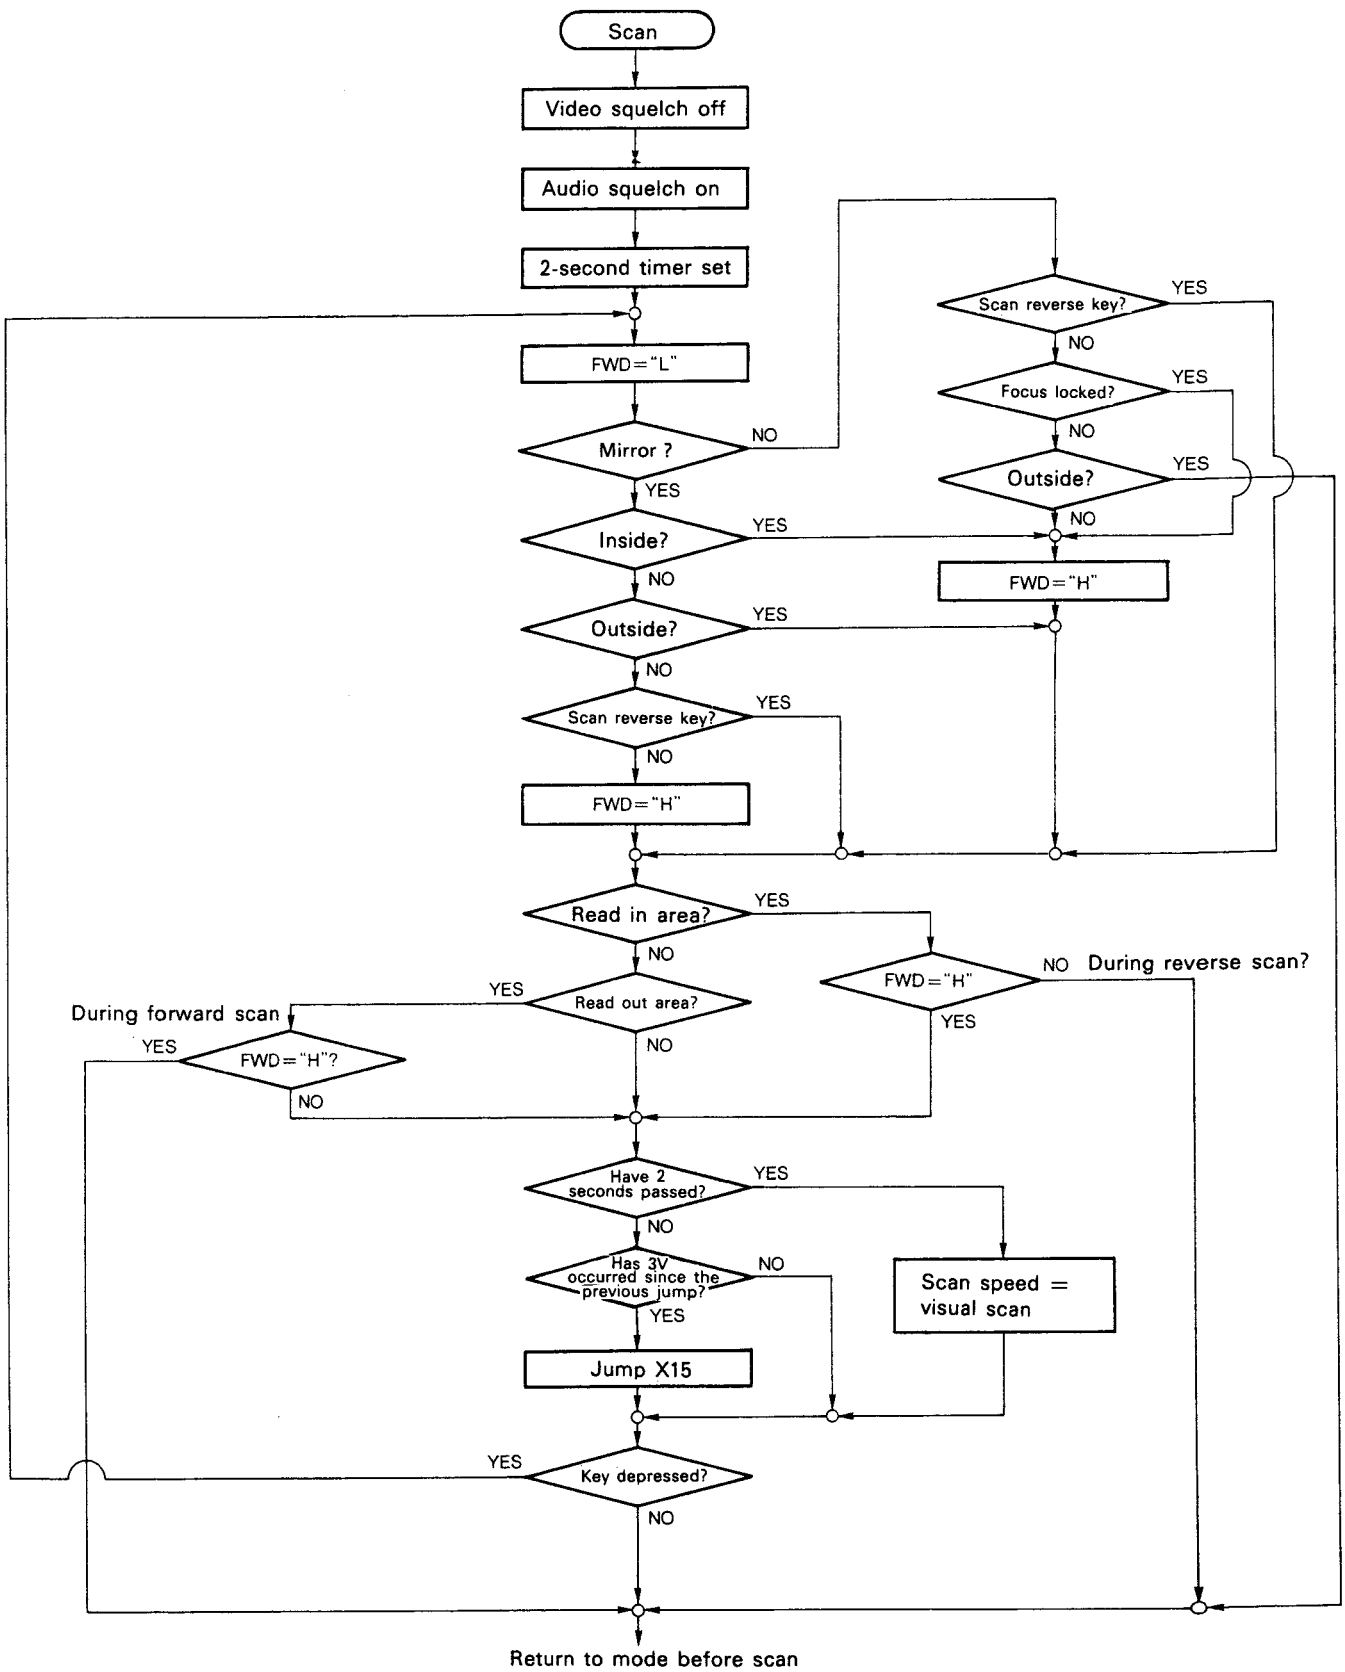

Fig. 5-1-3 Scan operation flowchart
- SCAN operation \Rightarrow Fig. 5-1-3